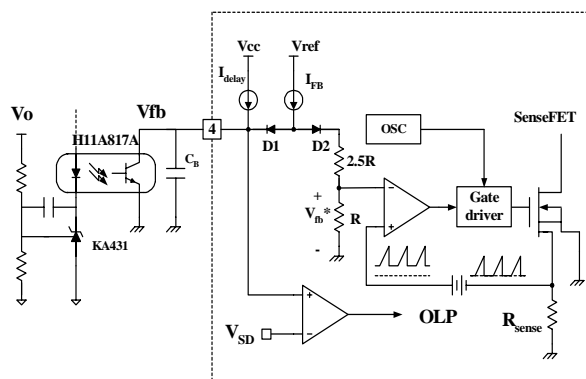

Figure 5. Pulse width modulation (PWM) circuit
**2. Feedback Control :** FSDM0565R employs current mode control, as shown in figure 5. An opto-coupler (such as the H11A817A) and shunt regulator (such as the KA431) are typically used to implement the feedback network. Comparing the feedback voltage with the voltage across the Rsense resistor plus an offset voltage makes it possible to control the switching duty cycle. When the reference pin voltage of the KA431 exceeds the internal reference voltage of 2.5V, the H11A817A LED current increases, thus pulling down the feedback voltage and reducing the duty cycle. This event typically happens when the input voltage is increased or the output load is decreased.
**2.1 Pulse-by-pulse current limit:** Because current mode control is employed, the peak current through the Sense FET is limited by the inverting input of PWM comparator ( $V_{fb}^*$ ) as shown in figure 5. Assuming that the 0.9mA current source flows only through the internal resistor ( $2.5R + R = 2.8 k\Omega$ ), the cathode voltage of diode D2 is about 2.5V. Since D1 is blocked when the feedback voltage ( $V_{fb}$ ) exceeds 2.5V, the maximum voltage of the cathode of D2 is clamped at this voltage, thus clamping  $V_{fb}^*$ . Therefore, the peak value of the current through the Sense FET is limited.